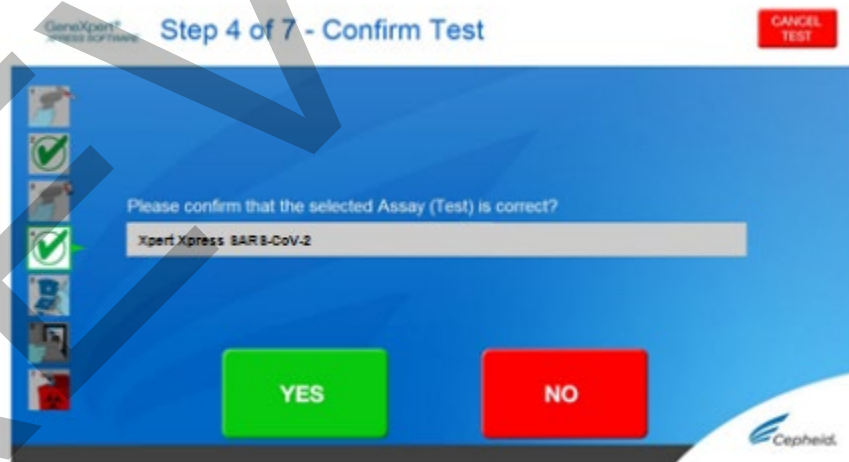

Figure 9. Confirm Test Screen
3. Confirm that the name on the cartridge is Xpert Xpress SARS-CoV-2 (shown in Figure 9 below) and touch **YES** if the displayed information is correct. Enter your user name and password if prompted.